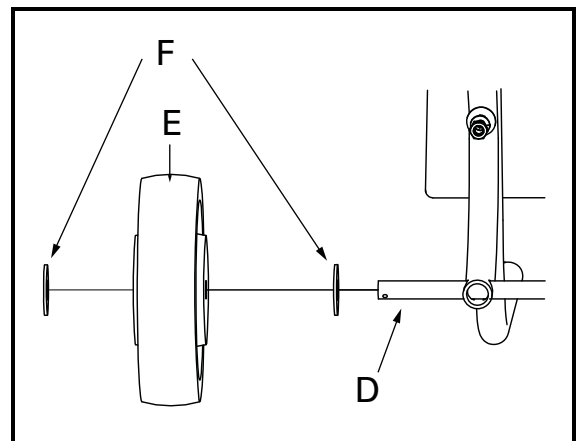

FIGURE 7. Wheel Installation.
- Center the axle (D) on the cart handle (C). Then install flat washers (F), the cart wheels (E), and a second set of flat washers (F) over the axle (D). See Fig. 7.